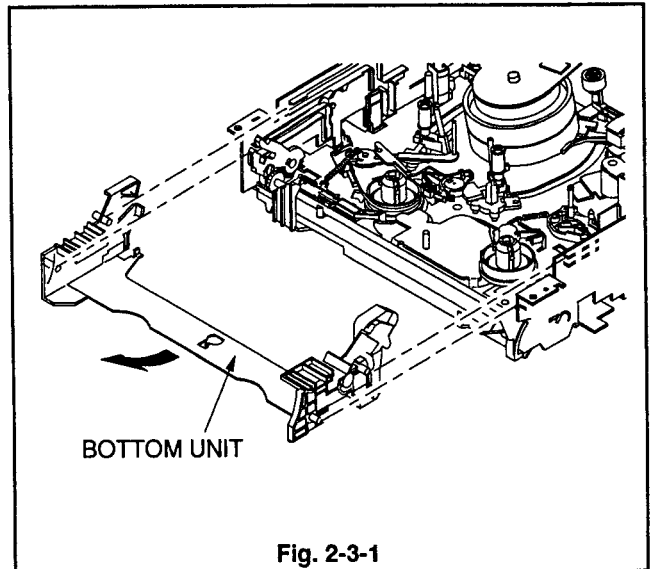

Fig. 2-3-1
2. Remove the BOTTOM UNIT in the direction shown by arrow as shown in Fig. 2-3-1.